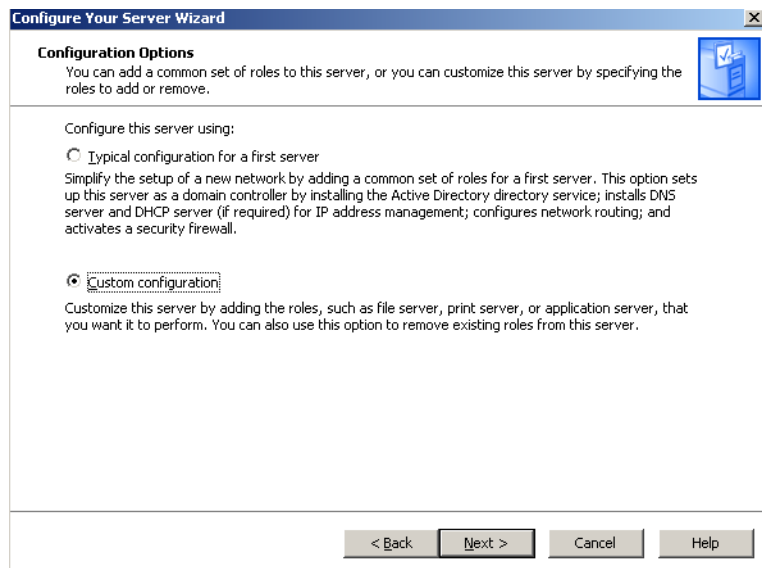

Figure D-3 Configuration Options
4. From the **Configuration Options** dialog shown in figure D-3, select the **Custom Configuration** radio button then click **Next** button.